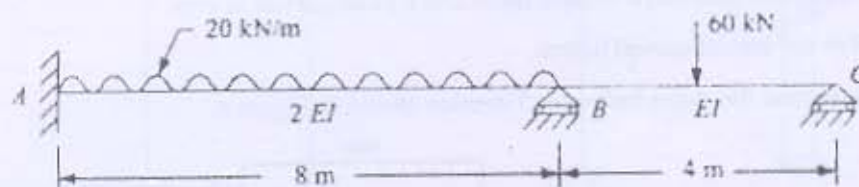

Figure 1
- (b) Analyse the continuous beam shown in Figure 1 by moment Distribution Method, if support B sinks by 10 mm. Take $EI = 4000 \text{ kN-m}^2$. Draw Bending moment diagram. [10]